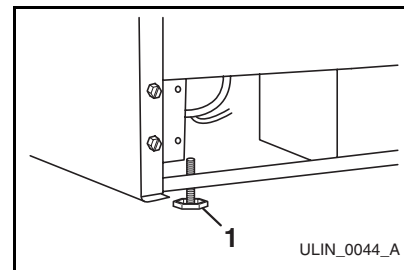

Figure 14
2. If the unit is not level, adjust the feet on the corners of the unit as necessary (**Figure 14**).